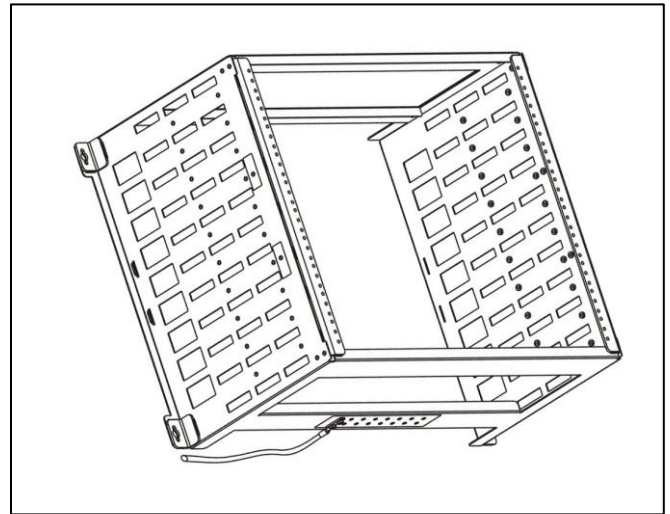

Figure 7. Frame grounding example
- ④ Before attempting to fasten the mounting frame to the wall, insert a screw into the top pilot hole on either the left or right side. Partially thread the screw into the hole, leaving the screw head approximately 1/4" from the surface.
- ⑤ Hold the mounting frame against the wall while resting the cutout of the bracket on the installed screw. Align the other five mounting holes and install a screw in each hole. Tighten all six (6) screws securely.
- ① Locate the eight (8) pairs of pre-installed grounding screws with lock washers on the crossbar of the frame. The grounding screws are 10-32 x 3/8" on 5/8" centers.
- ② Install a dual ground lug (customer provided) with holes on 5/8" centers beneath the included screws and washers on one pair of grounding holes. Tighten the screws to fasten the lug to the mounting frame. The example in Figure 7 illustrates the frame positioned with grounding screws facing downward.
- ③ Connect a ground wire of appropriate gauge to the ground lug and attach the other end of the wire to a bonded ground point, per local procedures for network equipment.